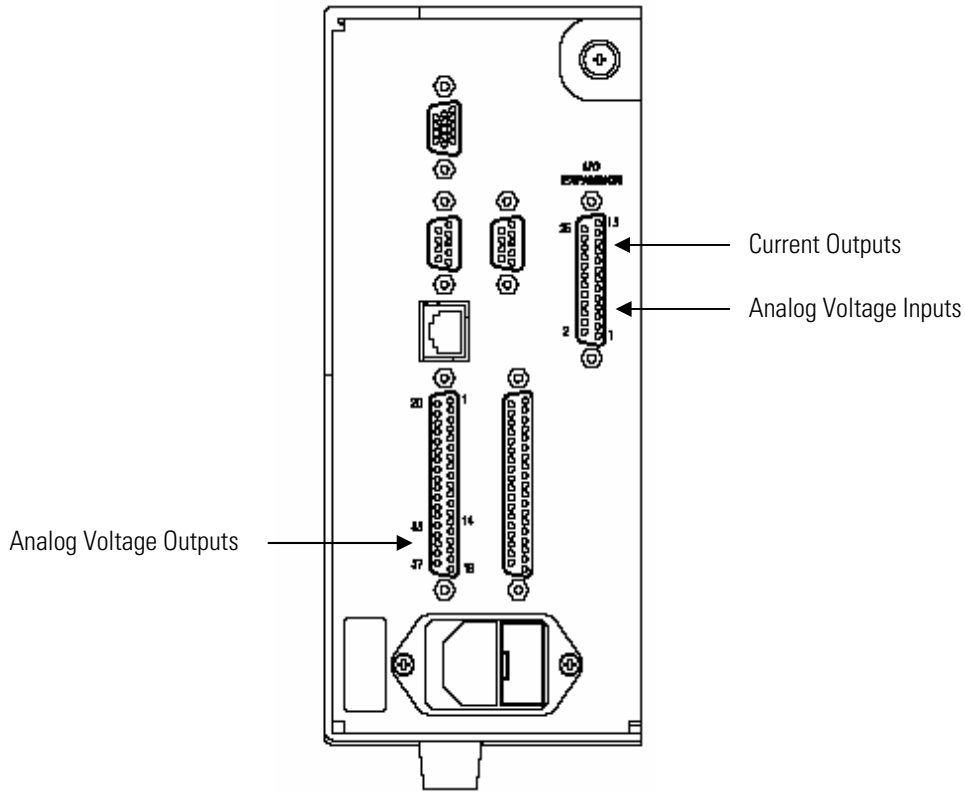

Figure 7-12. Rear Panel Analog Input and Output Pins
1. Connect a meter to the channel to be tested. **Figure 7-12** shows the analog output pins and **Table 7-4** identifies the associated channels.
1. Connect the known DC voltage source to the input channel (1-8) to be calibrated. **Figure 7-12** shows the analog output pins and **Table 7-4** identifies the associated channels.